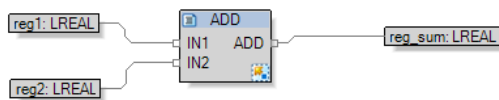

Figure 56: Create simple logic in the 61131 program.
- In the drawing area below create an 'ADD' function block by Ctrl+W and typing 'ADD'. Right-click on IN1 and select **Add Internal Var**. Type 'reg1' as the VAR name and save. Do the same for IN2 and reg2, and ADD and reg_sum as shown in Figure 56.